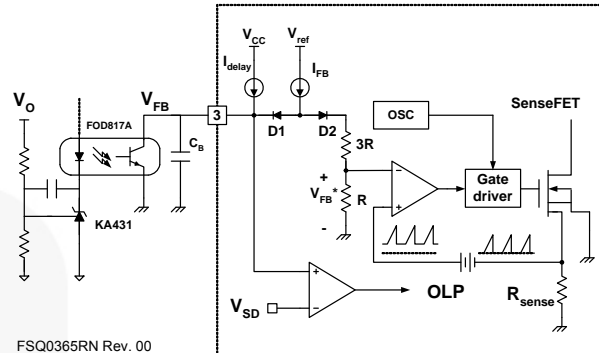

**Figure 20. Startup Circuit**
**1. Startup:** At startup, an internal high-voltage current source supplies the internal bias and charges the external capacitor ( $C_a$ ) connected to the  $V_{CC}$  pin, as illustrated in Figure 20. When  $V_{CC}$  reaches 12V, the FPS™ begins switching and the internal high-voltage current source is disabled. The FPS continues its normal switching operation and the power is supplied from the auxiliary transformer winding unless  $V_{CC}$  goes below the stop voltage of 8V.